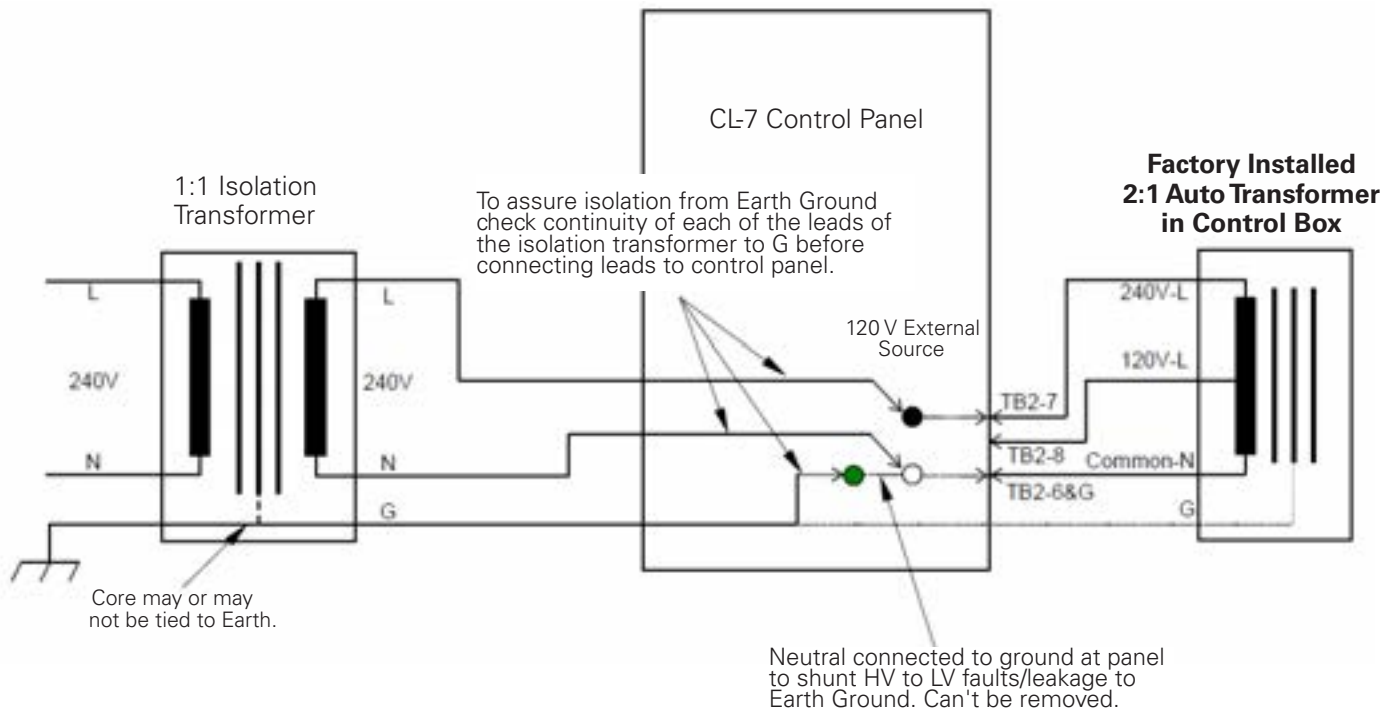

Figure 1-7. 240 Vac Application with Eaton's Cooper Power series 240 V Control - Option 2.
The 240 Vac external source must be completely isolated. In most cases an isolation transformer is needed. This isolation transformer must isolate both the neutral and line on the secondary side. Also, the neutral and ground on the secondary side should not be bonded or connected. To check isolation from earth ground, check the continuity of each lead on the isolation transformer with respect to ground (G). Check this before connecting the leads to the control panel. See Figure 1-7.